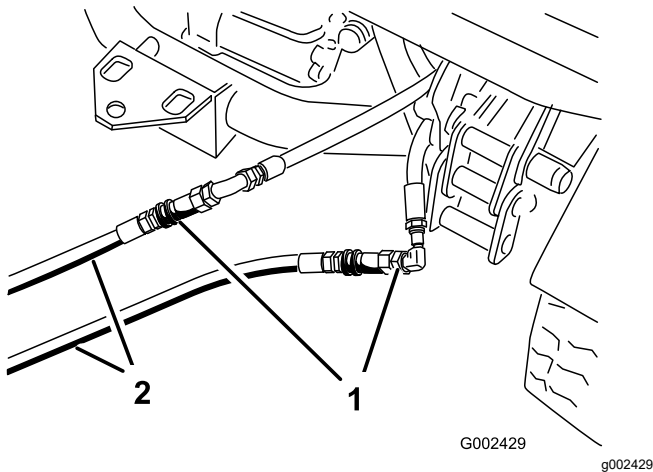

Figure 72
3. On the disabled machine, connect the 2 jumper hoses to the hoses that were disconnected (Figure 72).